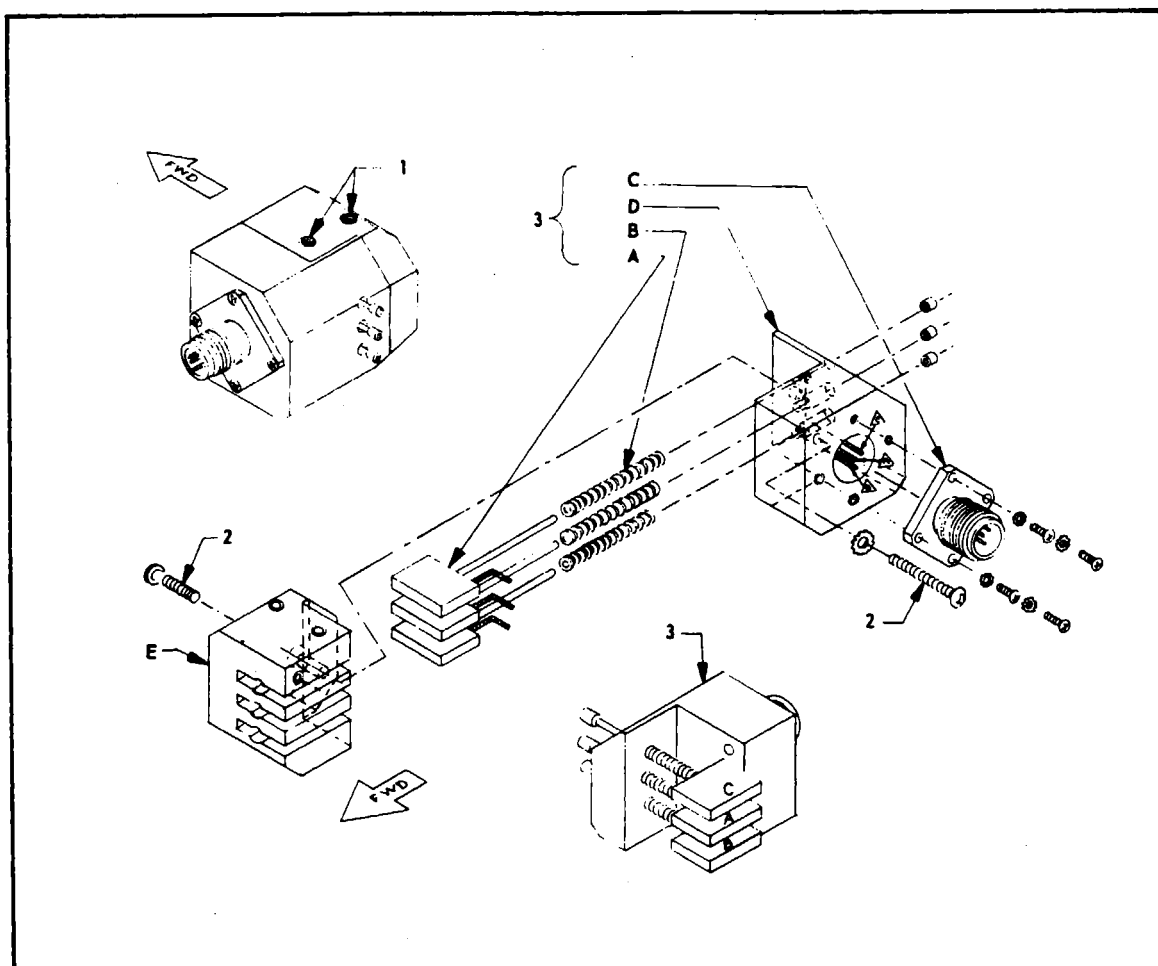

Figure 14-21. Brush Block Assembly,
14-41. BRUSH REPLACEMENT AS SUB-ASSEMBLY. (PA-23-250 (six place), Serial Nos. 27-2505 and up.) (Refer to Figure 14-21.) Take out screws at point labeled (1) and associated washers to dismount the brush block assembly. Next, remove screws (2) and their washers to slip the smaller block off the brush retainer assembly (3) which includes the brushes, springs, electrical connector and the larger block. Slide the smaller block onto the new brush retainer assembly (3) in the direction of brush travel to pass over the brushes and to then compress the springs. Use care that no side load is applied on brushes and that leads are not pinched or damaged. Install screws (2) with their washers to mount the smaller block to the larger and check for free sliding motion of the brushes. Mount the brush block assembly with the screws at point (1) and associated hardware. (Refer to Paragraph 14-44.)